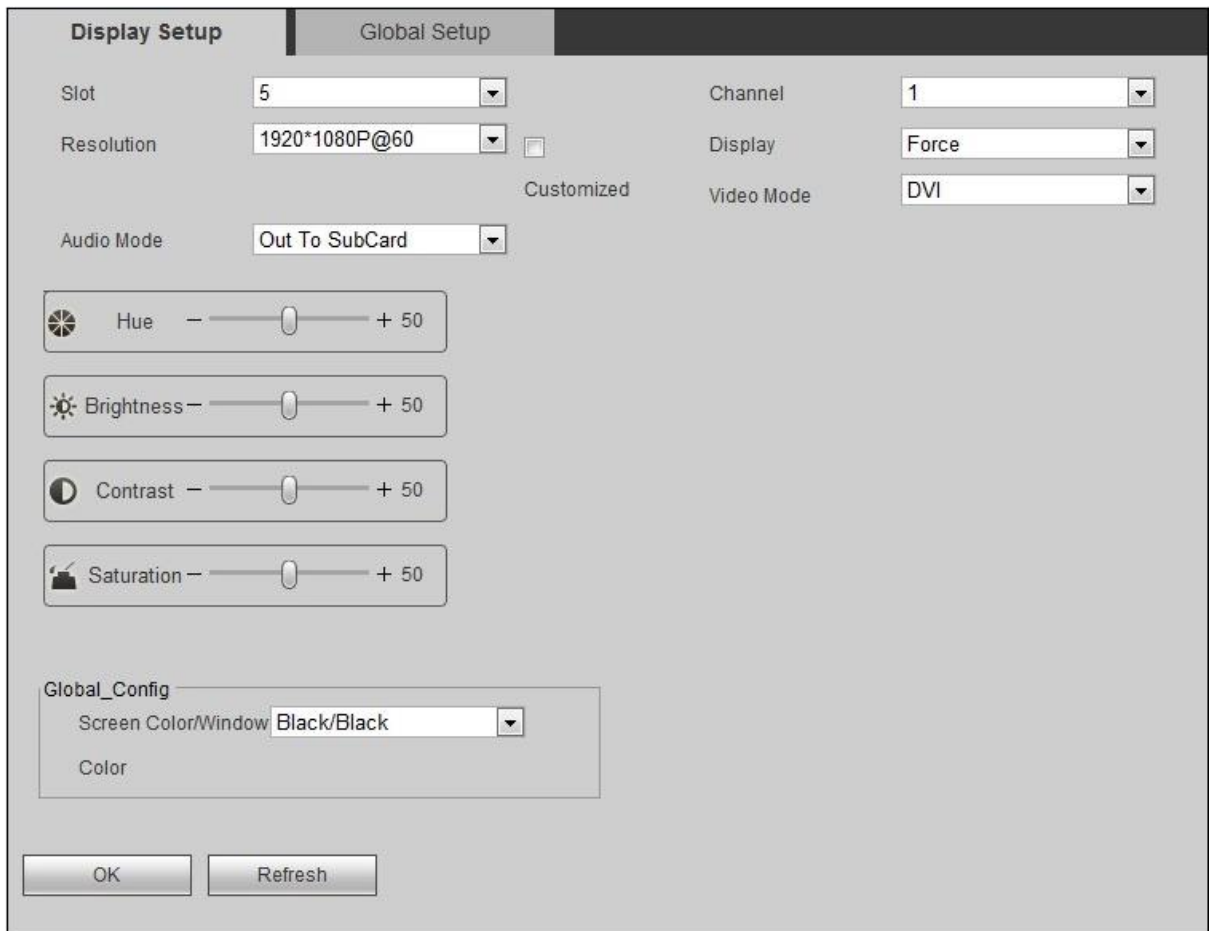

Figure 4-104
Step 1 Select “Setup>Display >Display Setup > Display Setup”. The system displays “Display Setup” interface, as shown in Figure 4-104.